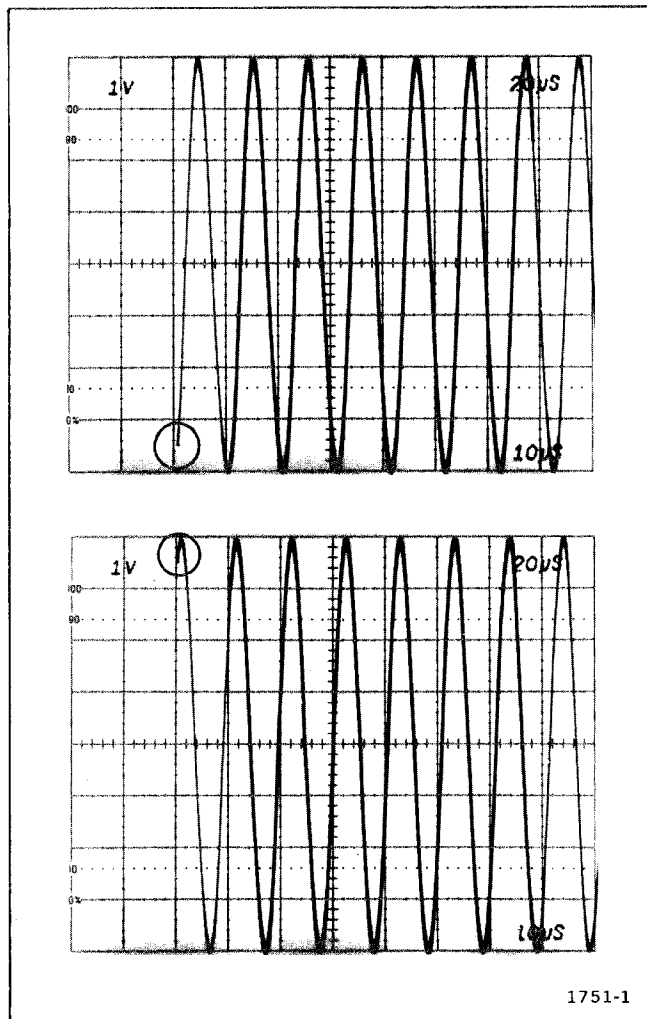

Fig. 5-11. Main Triggering level range. (Circle denotes triggering limits.)
d. Check—that all levels of the positive slope may be selected for the sweep starting point as the MAIN TRIGGERING LEVEL control is rotated throughout its range, and that triggering occurs at least 3.5 divisions above and below the center horizontal graticule line. See Fig. 5-11 for reference.